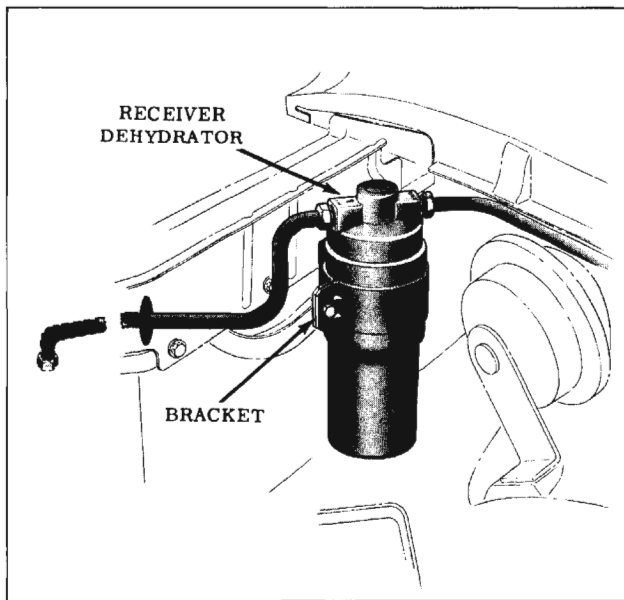

Fig. 15-131 Receiver - Dehydrator Installation
2. Disconnect the receiver-dehydrator to condenser pipe at the receiver-dehydrator. (Fig. 15-131)